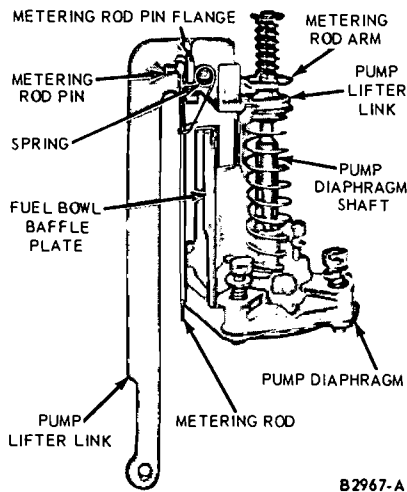

FIG. 48—Accelerating Pump and Lifter Link Assembly—Carter Model YF 1-V
5. Remove the accelerating pump diaphragm housing screws. Lift out the pump diaphragm assembly, the pump lifter link, the metering rod and the fuel bowl baffle plate as a unit (Fig. 48).
3. Install the metering rod on the metering rod arm and place the looped end of the metering rod arm spring on the metering rod as shown in Fig. 48. Align the pump diaphragm with the diaphragm housing; make sure holes are aligned. Install the housing attaching screws to keep the diaphragm and housing aligned.